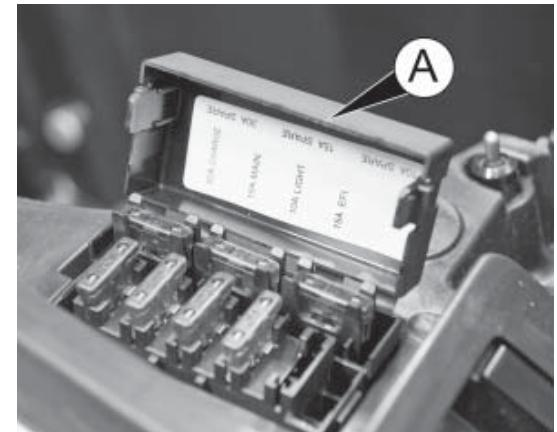

fig. 1
- Lift cover A fig. 1 to access the fuses